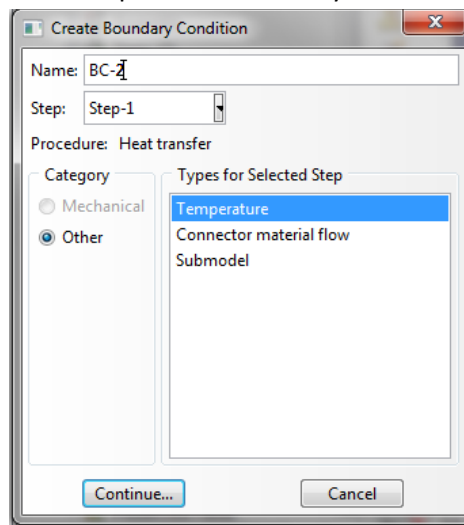

Figure 9
- Double click on BC's and create a Temperature boundary condition as in Figure 9